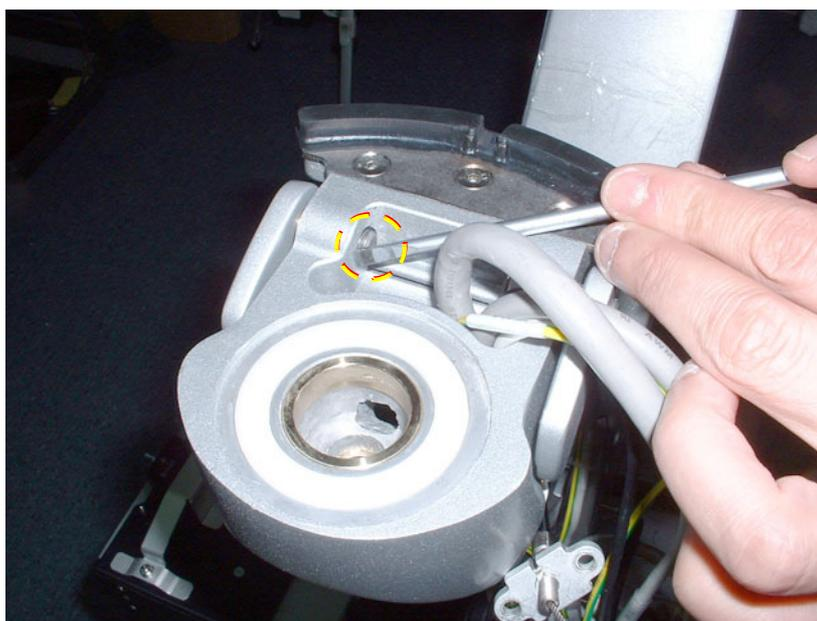

Figure 8-251 Ring Clips Securing Supporting Pins
9.) Release the ring clips securing the supporting pins - Figure 8-251.